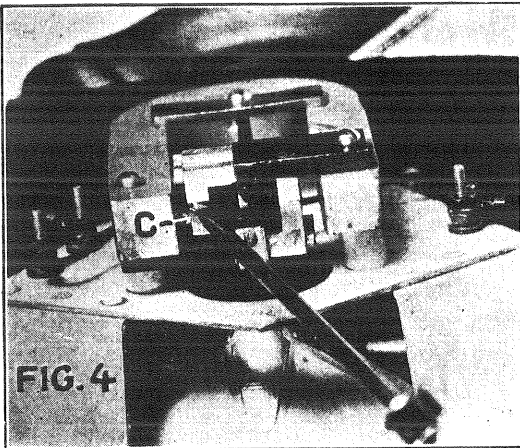

FIG. 4
To readjust the armature it will be first necessary to free it. Figures 4 and 5 show the method of doing this. The screws shown as "C" should be backed off about two turns. Do not remove them entirely.
After the spacer tools have been inserted, one at each end, the two screws "C" that were loosened (Figures 4 and 5) should be tightened firmly. Figure 8 shows the method of tightening the upper screw with the spacers in place.
10. Remove the two armature screws "C", Figures 4 and 5.
4. Replace the armature screws "C", Figures 4 and 5, but do not seat them firmly.